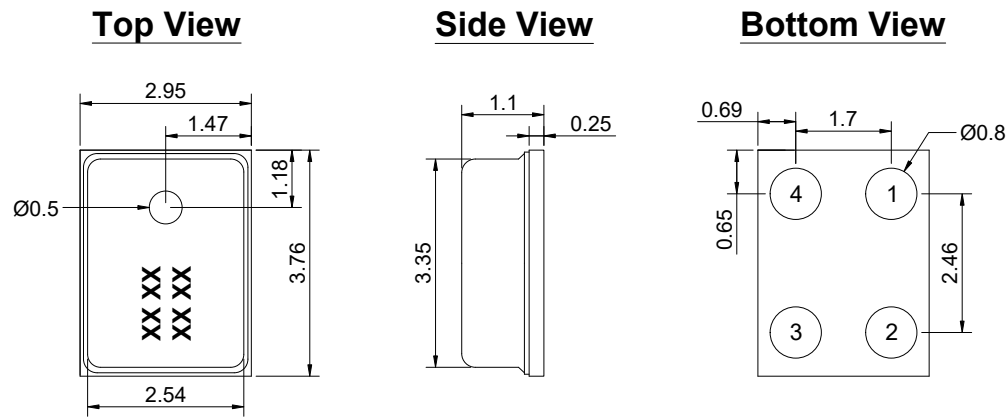

Figure 8. Mechanical Layout of SMO04A-42/1316
- 6.3.1.** Layout and Dimension : See Section 9, Figure 8